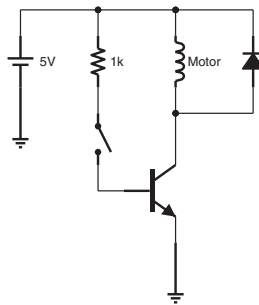
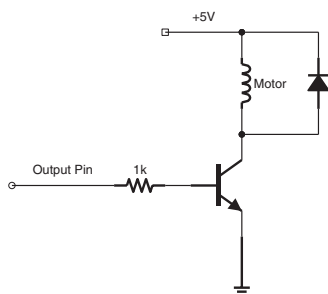

Figure 24-6. *Using a Transistor as a Switch for a Motor*
Figure 24-7. Using a Transistor to Control a Motor with a Microcontroller
The first circuit we will look at is Figure 24-6. In this circuit, there is no real *need* for a transistor—we could just as easily have put the switch where the transistor is. However, understanding how this setup works will help us understand other transistor circuits. In this circuit, the base is controlled by a small signal (the size of the signal is set by the size of the resistor). When the base turns on, it switches on the connection from the collector to the emitter, which controls current to the motor (the diode is simply a snubber diode as described in Chapter 20).
If you wanted to see inductive kick in action, you can replace the snubber in the circuit in Figure 24-6 with an LED. Every time you turn off the switch, the LED will light up for a moment.
To understand *why* we would use a transistor for a switch in the first place, let’s imagine that we have a motor just like in Figure 24-6, but in this case we want it to be controlled by an output pin from an Arduino running on an ATmega328/P.
Now, on this chip, output pins put out 5 V, but their current rating maxes out at 40 mA. However, motors usually require much more current than that. If we wanted our motor to use as much current as in Figure 24-6, it would blow out the chip if we tried to connect it directly to the output.
Figure 24-7 shows how this is configured. The schematic for this setup is almost identical to that of Figure 24-6. The only difference is that the electrical output of the Arduino is being used to control the base current instead of a mechanical switch. We can even calculate exactly how much current will be used. Since there is a diode (in the transistor), the resistor will be using 4.4 V. Therefore, since $I = \frac{V}{R}$, then $I = \frac{4.4}{1000} = 4.4\text{mA}$. With a beta of 100, that means that our motor can source 440 mA.
10. The output of your microcontroller is 3.3 V and supports a maximum output current of 10 mA. Using Figure 24-7 as a guide, design a circuit to control a motor that requires 80 mA to operate. Assume that the transistor beta is 100.